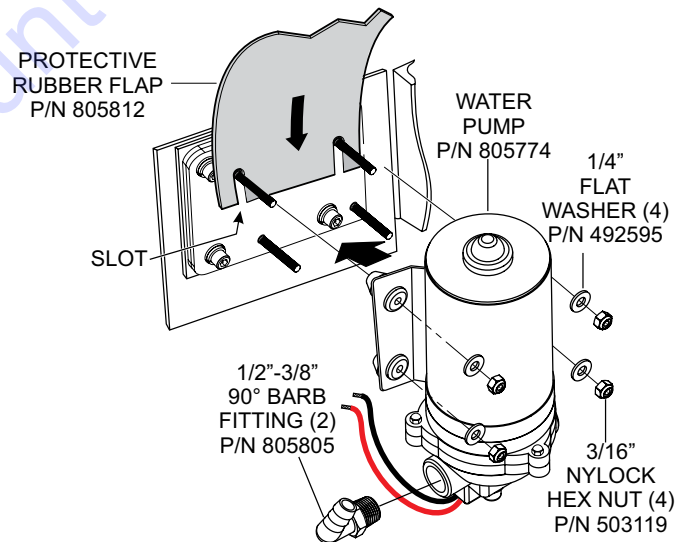

Figure 8. Installing Protective Rubber Flap
1. Place the slotted sections on the protective rubber flap P/N 805812 over the top two 1/4" X 3/4" allen head screws on the pump mounting plate as shown in Figure 8.